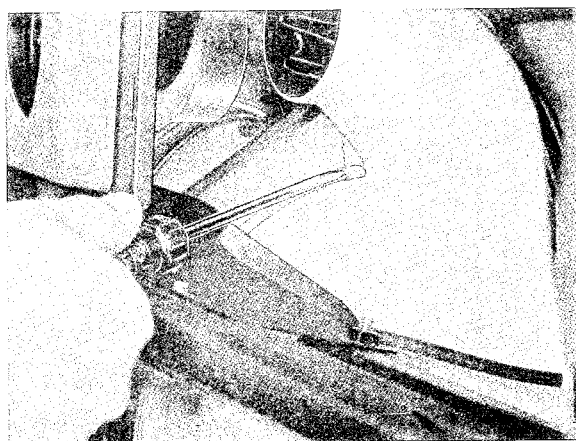

Fig. 8-69. Removing clamps for outer end
8. Remove the clamps on the central unit outer end (Fig. 8-69) and remove the end.
6. Remove the clamps on the central unit outer end (Fig. 8-69), and remove the end.